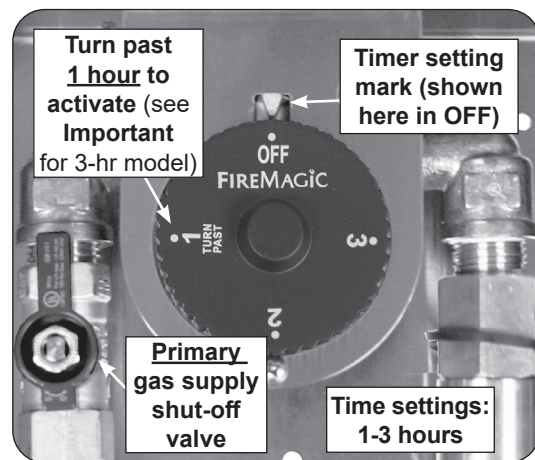

Fig. 3-2 3-hour timer operation
**Important:** When using the timer for periods of less than one hour, you must first turn the dial past 1 hour (to activate), then return (counter-clockwise) to the desired amount of time. This will ensure proper timer operation. See Fig. 3-2.